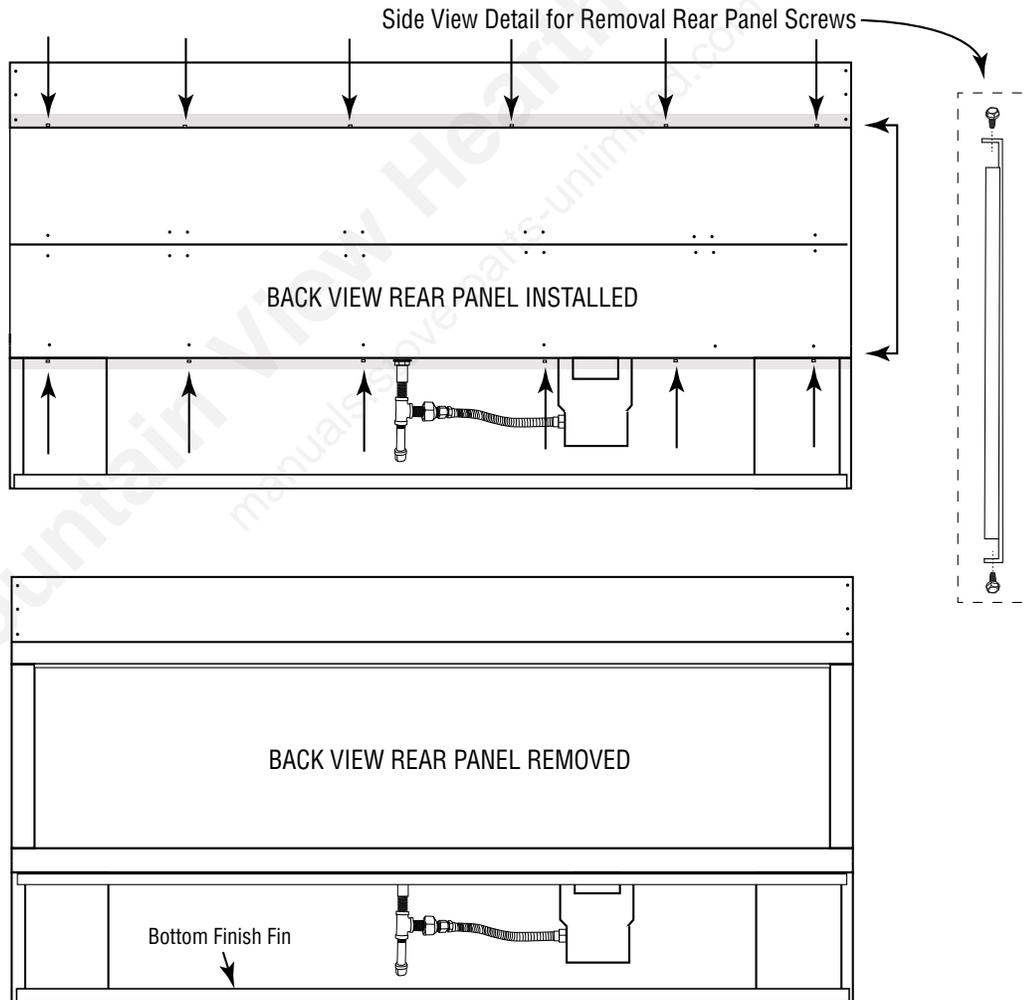

Figure 9 - Removing back wall to convert to see-through model.
Step 1. Look at the back side of the fireplace. Around the outer perimeter area of the frame or back wall are several screws to remove (See the shaded area in **Figure 9**). Only remove the top and bottom screws on the rear panel.